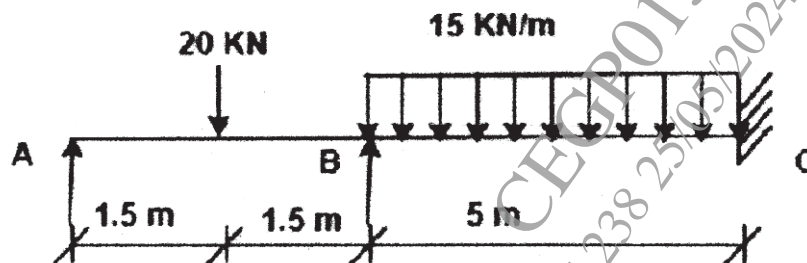

Figure 2
- b) Find the rotation B (θ_B) for the beam with uniform flexural rigidity as shown in figure 2. [6]